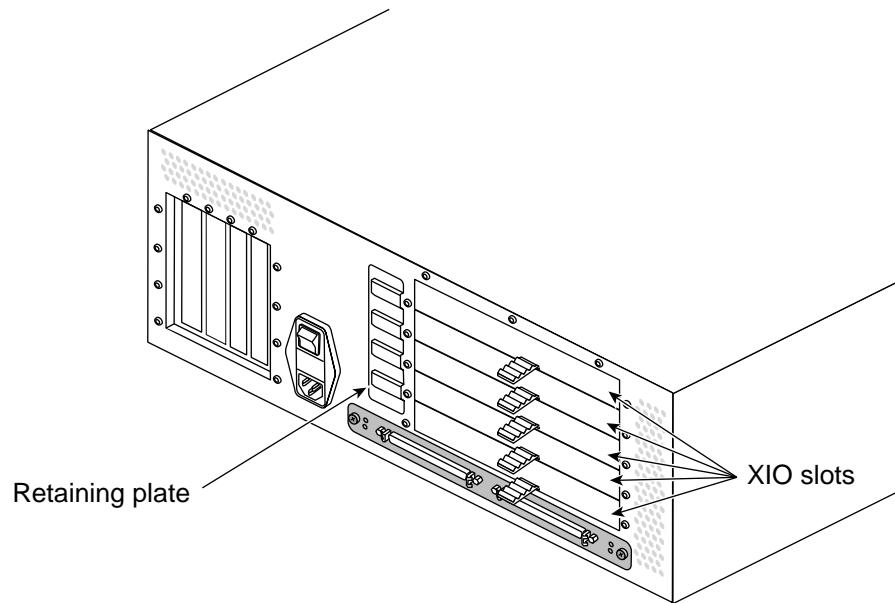

Figure 4 XIO Slots in Origin 200 Gigachannel Expansion Cabinet (Rackmount Rear)
- Figure 4** XIO Slots in Origin 200 Gigachannel Expansion Cabinet (Rackmount Rear) 9